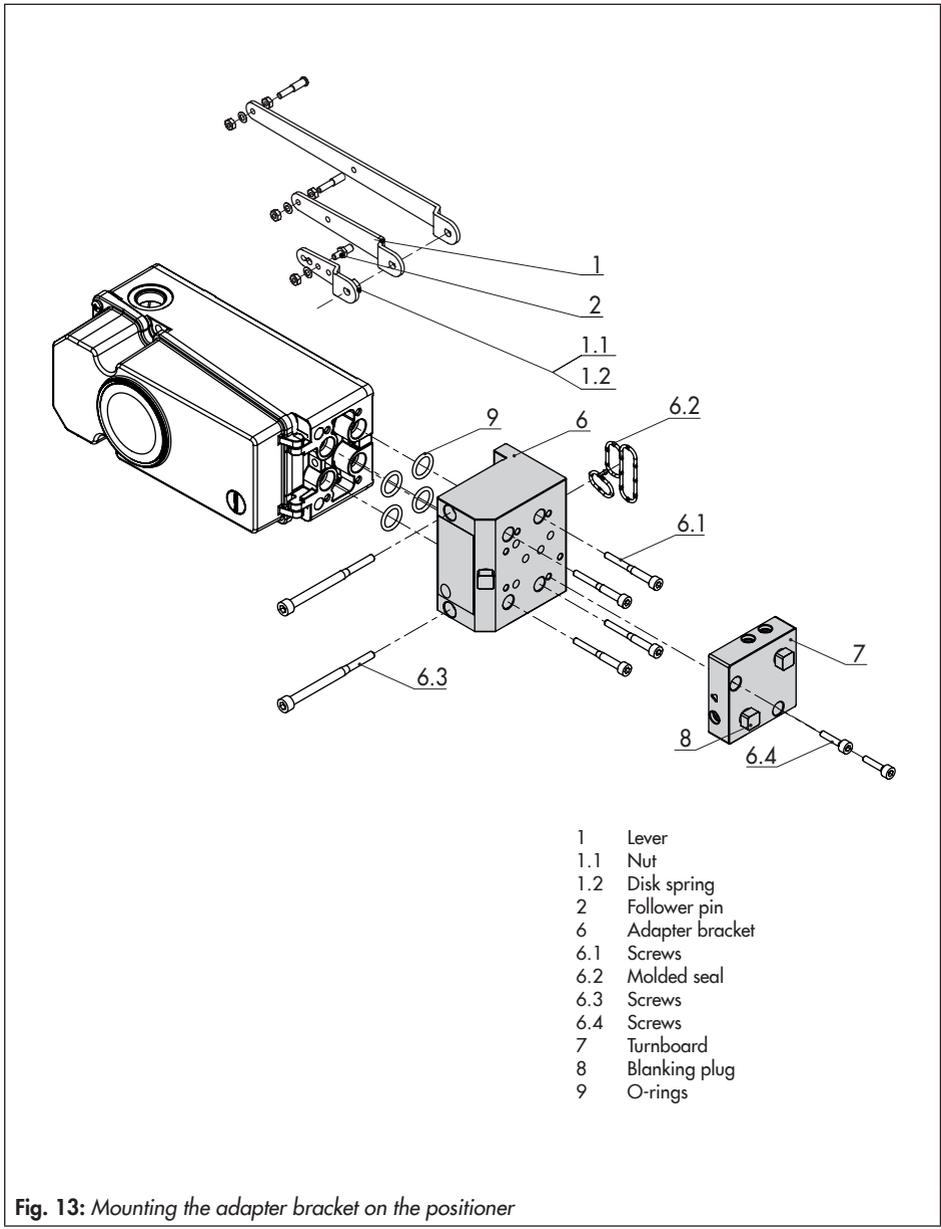

Fig. 13: Mounting the adapter bracket on the positioner
10. Place positioner in such a manner that the follower pin (2) rests on the top of the follower clamp (3). The lever (1) must rest on the follower clamp with spring force.
11. Fasten the positioner to the adapter block (13) using the two fastening screws (6.3). Make sure the molded seal (6.2) is properly seated (see Fig. 13).
12. Mount cover (11) on the other side.